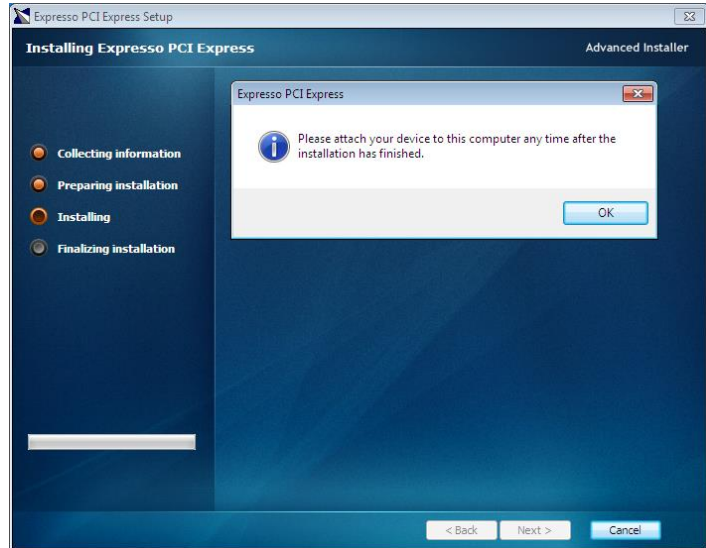

Figure 9
***Note:** if the PCI Express Card has not been loaded with a bitfile, you may see the notice in Figure 9. After programming the board, reboot the machine and continue using the driver.*